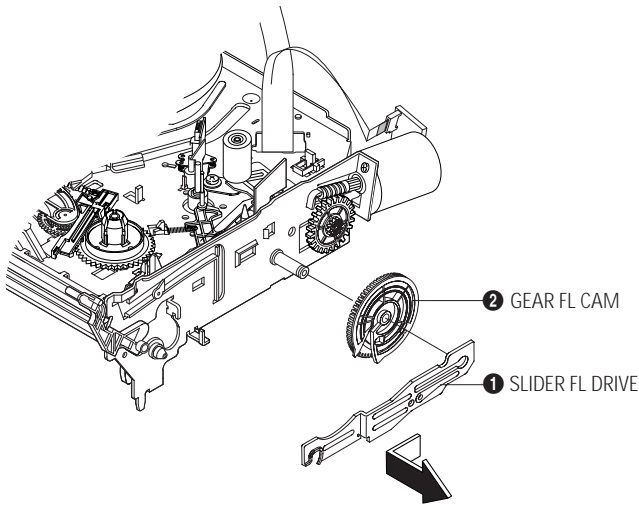

Fig. 5-13 Slider FL Drive Removal
- 1) Pull the Slider FL Drive ❶ to the front direction.
- 2) Remove the Slider FL Drive ❶ in the direction of arrow. (Refer to Fig. 5-13)
- 3) Remove the Gear FL cam ❷.
**Note :** When reinstalling be sure to reassemble Slider FL drive ❶ after you insert the Boss of Lever FL ARM-R in Groove of Slider Fl drive ❶.
**Assembly :** Align the Gear FL Cam ❶ with the Gear worm wheel Post as shown drawing. (Refer to Timing point)